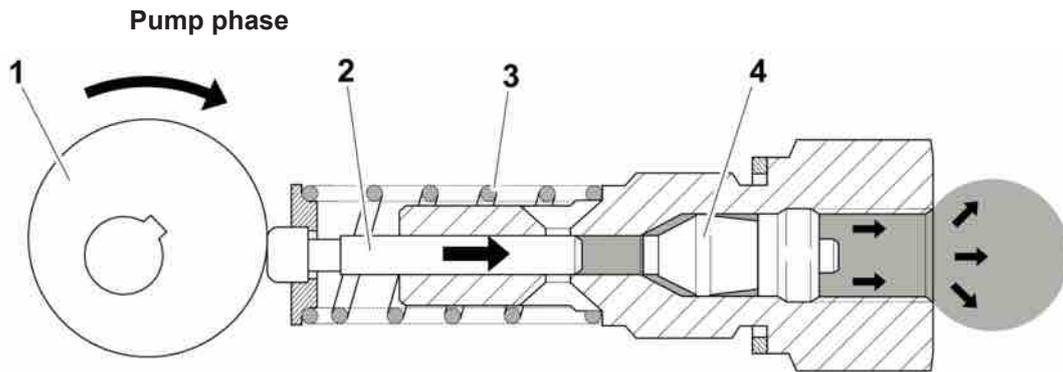

Fig. 6 - The pump element distributes lubricant.
- The piston delivers lubricant via the distributor to the connected lubrication points, see fig. 6.